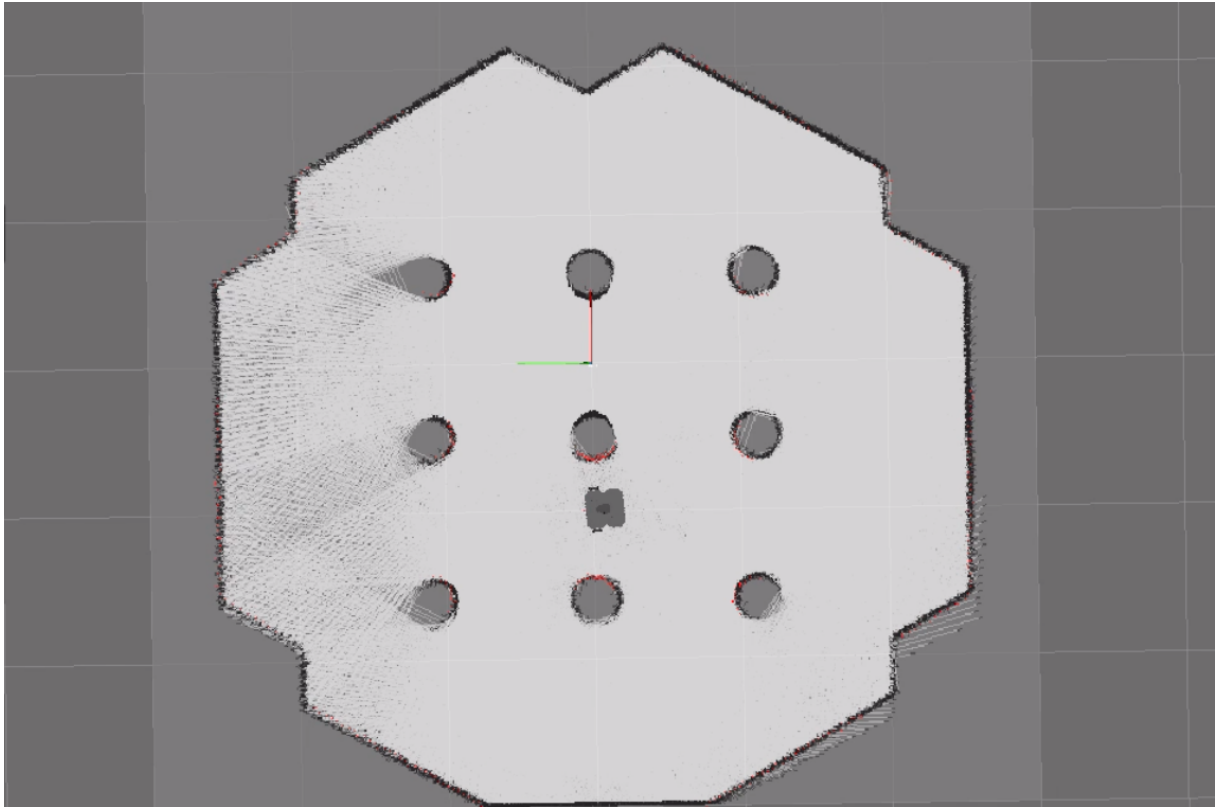

Figure 1: Final Occupancy Grid Map
1. **Mapping Algorithm:** The below sequential process is implemented for building the occupancy grid map in figure 1: